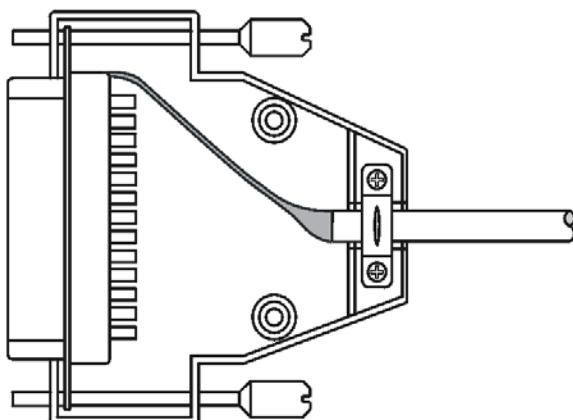

Fig. 1
- When using shielded cables, connect the shield to the connector with the greatest possible surface area. No pigtails! (See figures 1 and 2).